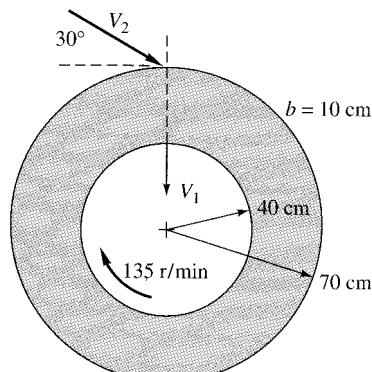

Fig. P11.87
**11.87** An idealized radial turbine is shown in Fig. P11.87. The absolute flow enters at 30° and leaves radially inward. The flow rate is 3.5 m3/s of water at 20°C. The blade thickness is constant at 10 cm. Compute the theoretical power developed at 100% efficiency.